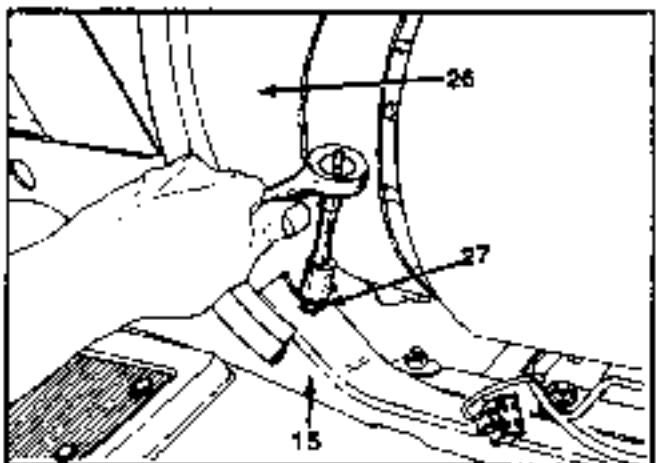

FIGURE 15.
18. Remove the heat shield from the chassis, by removing hex bolt and washer on right hand side. See figure 15.